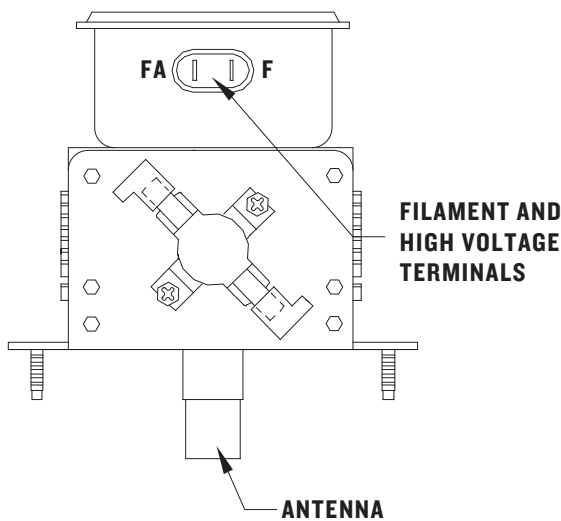

Figure 35: Magnetron
Figure 35. Magnetrons supply the RF energy at 2.45 GHz and begin to oscillate when they are supplied with approximately 4.1 kVDC at approximately .350 mA. During operation, each magnetron will output a nominal 1 kW of power.
3. Isolate the magnetron from the circuit by removing the wires from the F and FA terminals. Figure 35.
4. An ohmmeter connected between the filament terminals (F, FA) should indicate a reading of less than 1 ohm. Figure 35.